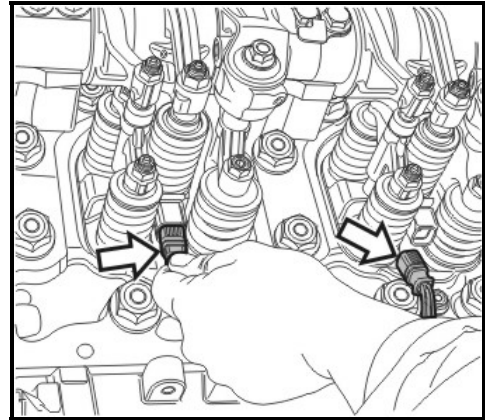

FIGURE 14
20. Disconnect the harness from the engine injectors (fig. 14).